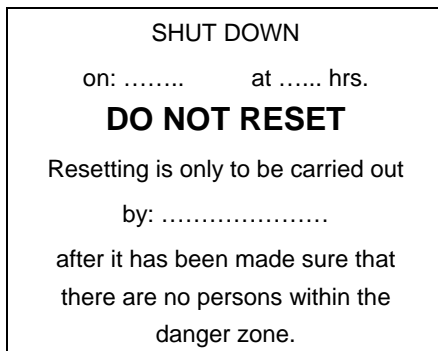

Figure 2
4. In case it is not possible to secure the switch by means of a lock, please set up a sign according to figure 2.